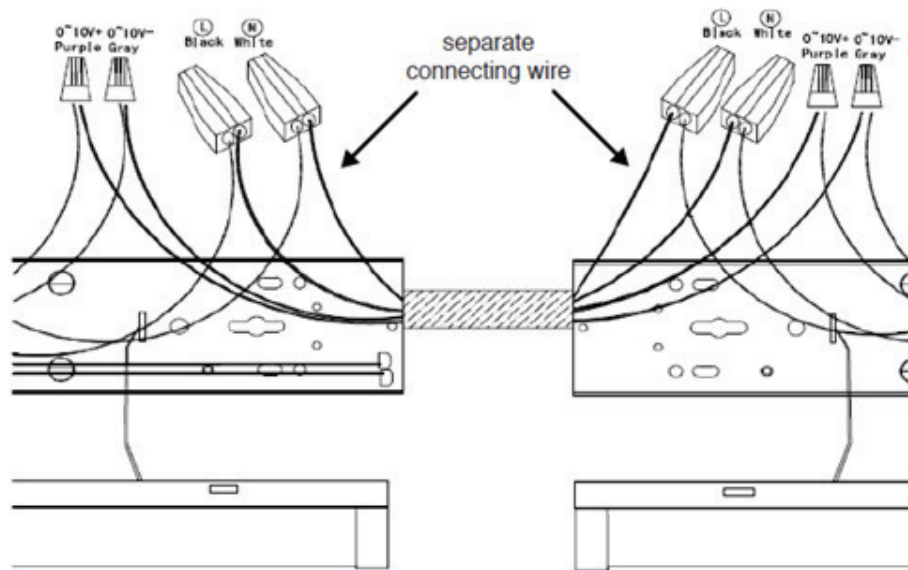

Figure 1
1. Remove the knock out on the end of the fixtures. Use a separate wire to connect the AC wire terminal together and repeat the connection for the natural wire terminal. Connect the two dimmer wire as figure 1 if dimming function is needed. (max of 4pcs for 4FT & 3 pcs 8FT can be linked)